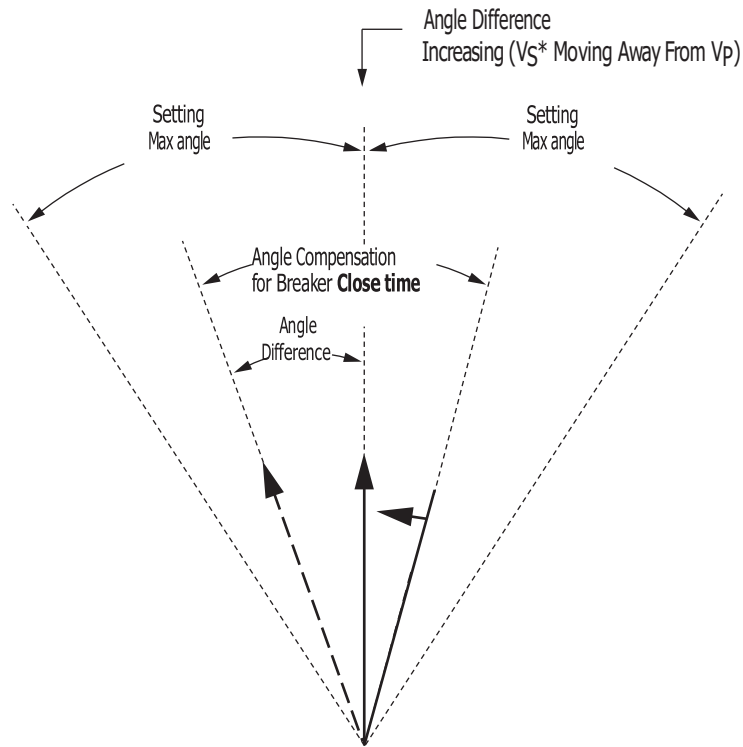

Figure 1 Angle Difference Between VP and VS Compensated by Breaker Close Time ($f_P < f_S$; VP Shown as Reference in This Example)
During the breaker **Close time**, the voltage angle difference between voltages VP and VS changes by 6 degrees. This 6-degree angle compensation is applied to voltage VS, resulting in derived voltage VS*, as shown in *Figure 1*.
The top of *Figure 1* shows the Angle Difference *decreasing*—VS* is approaching VP. Ideally, circuit breaker closing is initiated when VS* is in-phase with VP (Angle Difference = 0°). Then when the circuit breaker main contacts finally close, VS is in-phase with VP, minimizing system shock.
The bottom of *Figure 1* shows the Angle Difference *increasing*—VS* is moving away from VP. Ideally, circuit breaker closing is initiated when VS* is in-phase with VP (Angle Difference = 0°). Then when the circuit breaker main contacts finally close, VS is in-phase with VP. But in this case, VS* has already moved past VP, it will be
1. The top of *Figure 1* shows the Angle Difference *decreasing*—VS* is approaching VP. When VS* is in-phase with VP (Angle Difference = 0°), synchronism check elements assert to logical 1.
2. The bottom of *Figure 1* shows the Angle Difference *increasing*—VS* is moving away from VP. VS* was in-phase with VP (Angle Difference = 0°), but has now moved past VP. If the Angle Difference is *increasing*, but the Angle Difference is still less than maximum angle settings **Max angle**, then corresponding synchronism check elements assert to logical 1.